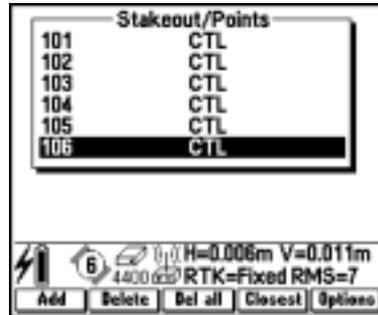

Figure 17.6 Stakeout/Points screen showing selected points
5. Press  to return to the *Stakeout/Points* screen. See Figure 17.6.